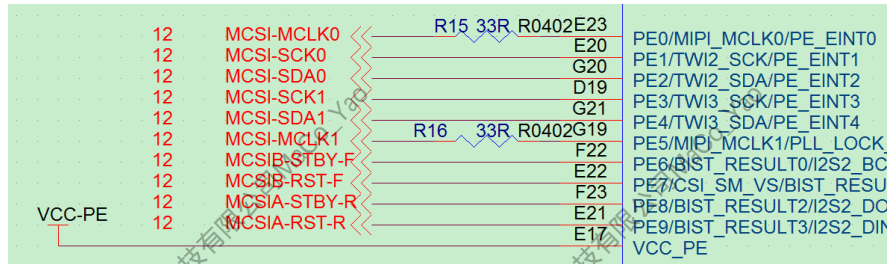

Figure 2-57 MCLK Circuit Design
- For the MCLK, suggest that reserve the NC capacitor near the socket and connect to the 33R resistor in series near the SOC end. As shown in Figure 2-57.